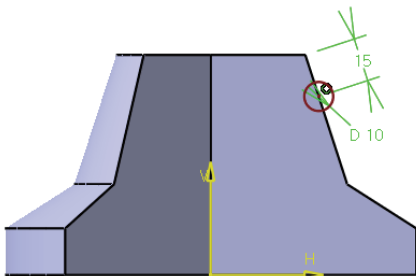

Fig 6-6 Sketch
3. Create a circle as shown in Fig 6-6 and iso-constrain it.